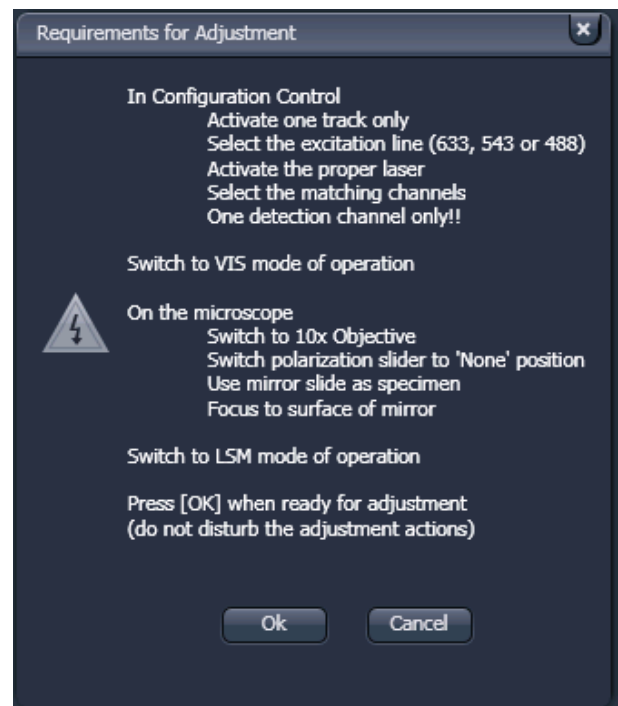

Fig. 442 Requirements for Adjustment window
- Meet the requirements listed in the **Requirements for Adjustment** window (Fig. 442). Press **Cancel** to abort the automatic pinhole adjustment. Press the **OK** button to proceed.